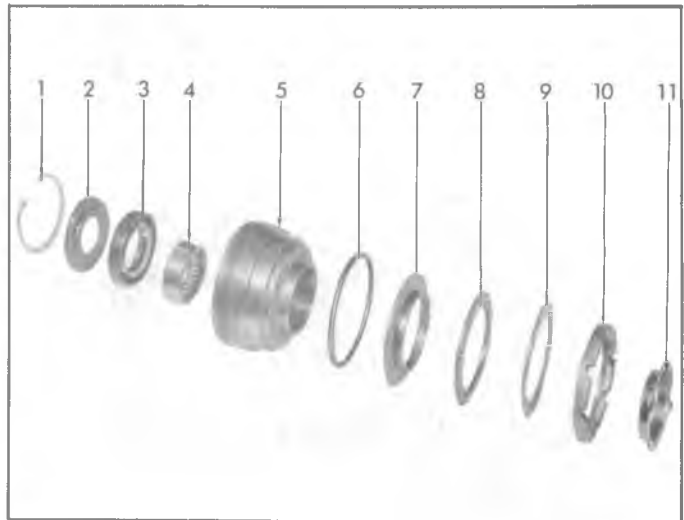

Fig. 42—Adjuster Plug - Exploded View
1. If the oil seal ONLY is to be replaced, and not the bearing, install the adjuster plug loosely in the gear housing. Remove the retaining ring with Internal Pliers J-4245. With a screw driver, pry the dust seal and oil seal from the bore of the adjuster plug being careful not to score the needle bearing bore (fig. 42). Discard the oil seal.